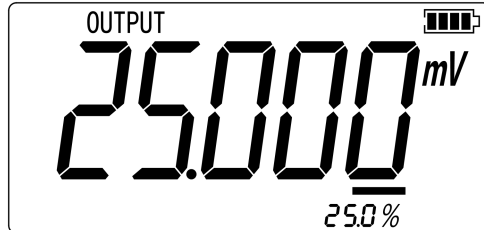

Figure 2.1-6
11. Press or to make output increase or decrease within the span of 0% to 100% based on 25% advance amplitude. The screen will display as shown in Figure 2.1-6.